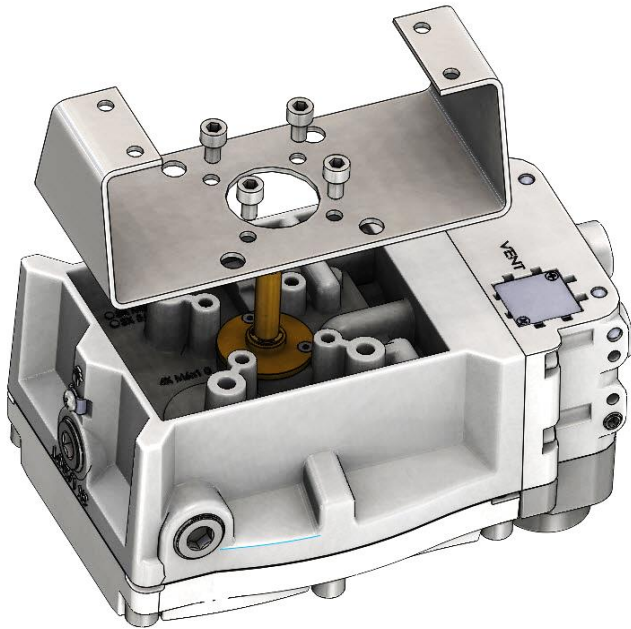

Figure 20: AutoMax Bracket
- 1 Attach the mounting plate to the positioner using four screws. See Figure 20: AutoMax Bracket.